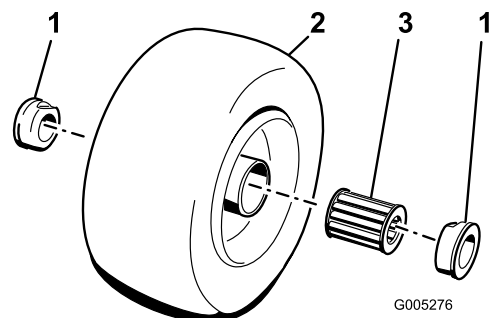

Figure 21
2. Remove one of the outer bearings from the wheel hub and allow the inner bearing to fall out (Figure 21). Remove the bearing from the opposite side of the wheel hub.